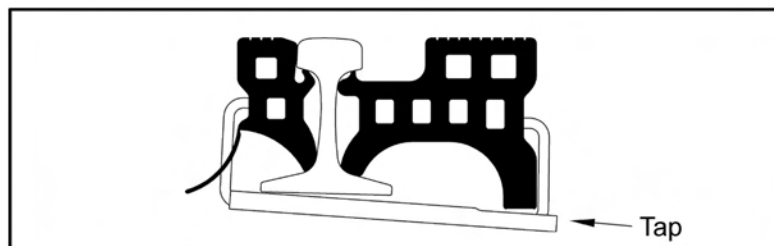

Figure 6
- 7 Using a sledge hammer, tap sliding pipe towards the rail until it stops (Fig. 6)